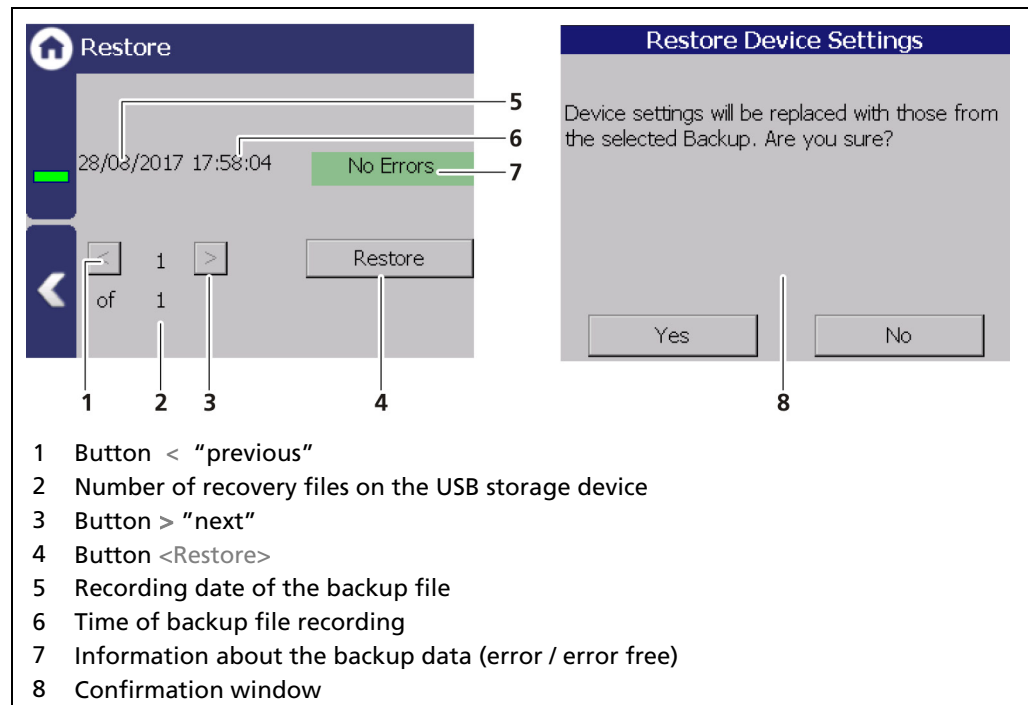

Fig. 103 Restore
2. The USB storage device is recognized by the system after a few seconds and the button <Backup> (Fig. 103, item 1) can be clicked.
3. Click on the button <Backup> (Fig. 103, item 1).
- ▶ The message "Error free" (Fig. 103, item 3) appears in the field "Backup data" for error-free backup files.
- ▶ The message "Backup successful" appears after a successful copy process (Fig. 103, item 5).